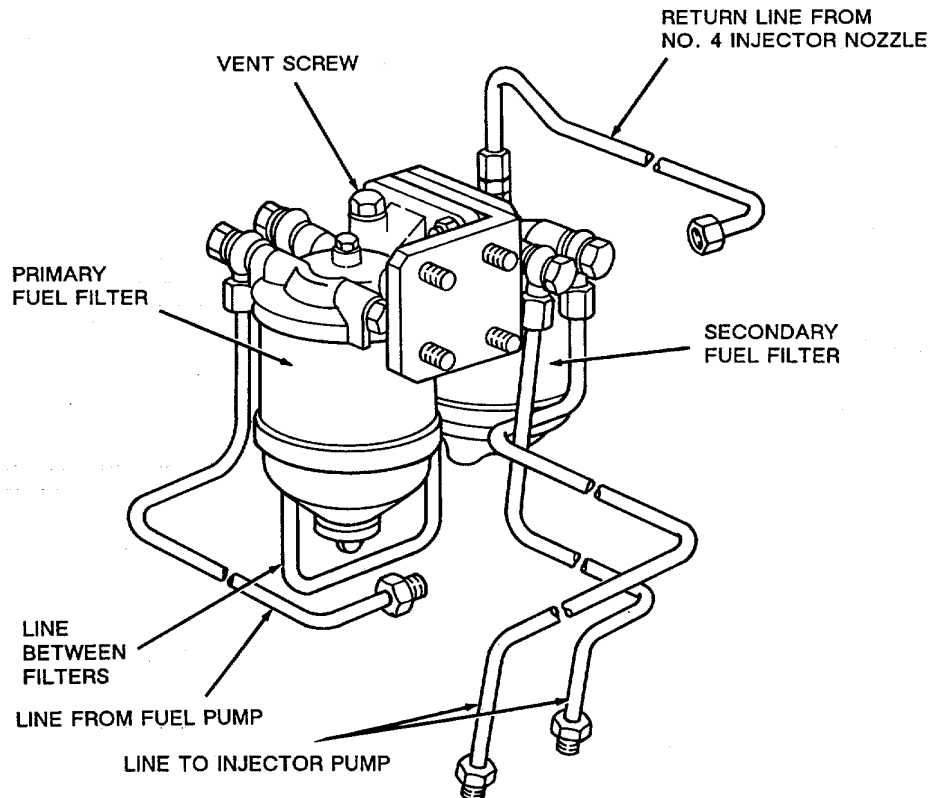
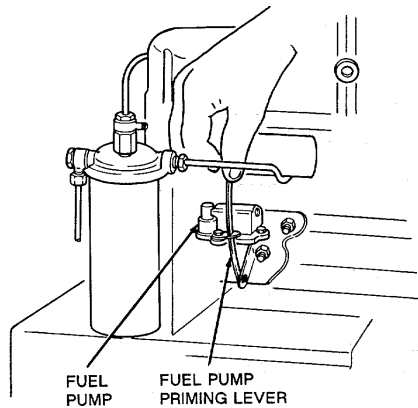

Figure 4-13. Fuel Filters.
Figure 4-15. Primer Pump
- a. Replacement (See Figure 4-13).
- (1) Remove the vent plug (11) from the primary fuel filter vent (see Figure 4-13).
- (2) Operate the fuel pump priming lever (see Figure 4-15) until fuel, free of air bubbles, flows from the primary fuel filter vent.
- (3) Return the vent plug (11) to the primary fuel filter vent.
- (4) Disconnect the fuel return line from the secondary fuel filter (see Figure 4-13).
- (5) Operate the fuel pump priming lever (see Figure 4-15) until fuel, free of air bubbles, flows from the top of the secondary fuel filter.
- (6) Return the fuel return line to the secondary fuel filter. Do not tighten the fuel line.
- (7) Operate the fuel pump priming lever (see Figure 4-15) until fuel, free of air bubbles, flows from the fuel return line connection.
- (8) Tighten the fuel return line connection (see Figure 4-13).
- (1) Disconnect fuel line from discharge port.
- (2) Pump priming lever (see Figure 4-15). A strong stream of fuel should discharge from the pump.
- (3) If the priming lever does not operate correctly, turn the engine over and watch for the fuel discharge.
- (4) If fuel still does not discharge well or at all, replace the fuel pump.
- (5) Disconnect the inlet fuel line from the fuel pump and attach a vacuum gage to the fuel pump. Turn the engine over; the pump should pull 8-14 in. of mercury (0.28-0.48 kg/sq cm mercury).
- b. Removal (See Figure 4-15).
- c. Installation (See Figure 4-15).
- (1) Set new gasket (4) on mounting studs.
- (2) Insert pump (3) into tappet inspection hole and mount fuel pump on mounting studs.
- (3) Secure fuel pump (3) to mounting studs with retaining plates (7) and nuts (6).
- (4) Connect fuel lines to inlet ports and discharge port.
- (5) Prime fuel system (see paragraph 4-42).